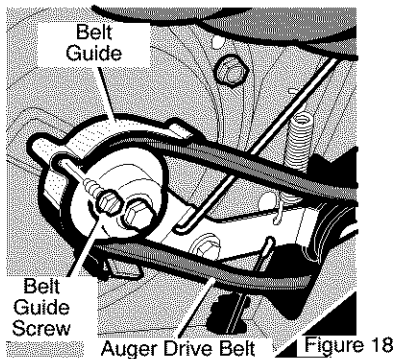

Figure 18
4. Remove the **belt guide screw** and the **belt guide**. See Figure 18). To remove the **belt guide**, rotate the **belt guide** down.